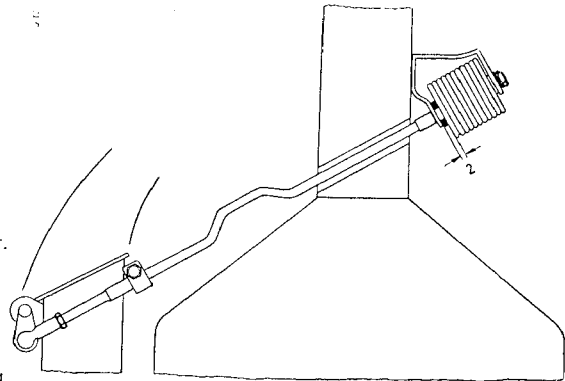

Fig. 105
3. Insert gauge and mount bellows (Fig. 105) pulling on operating rod until gauge fits snug and hold.